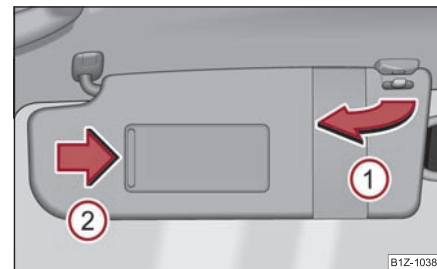

Fig. 58 Sun visor: swivelling out
You can pull the sun visor for the driver or front passenger out of the fixture and swivel it toward the door in the direction of the arrow **①** ⇒ **fig. 58**.